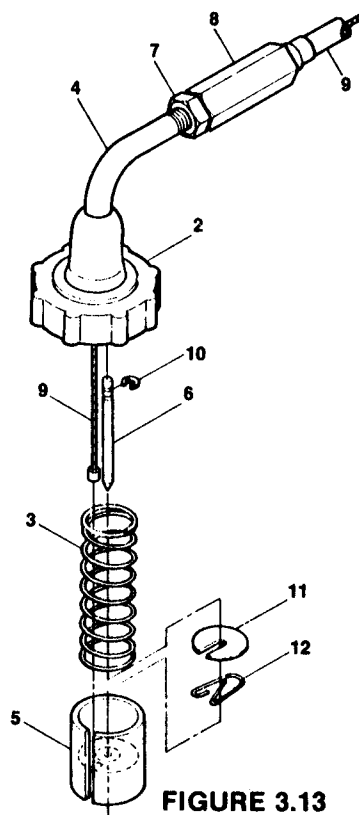

FIGURE 3.13
A. DISASSEMBLY— See Figure 3.13.